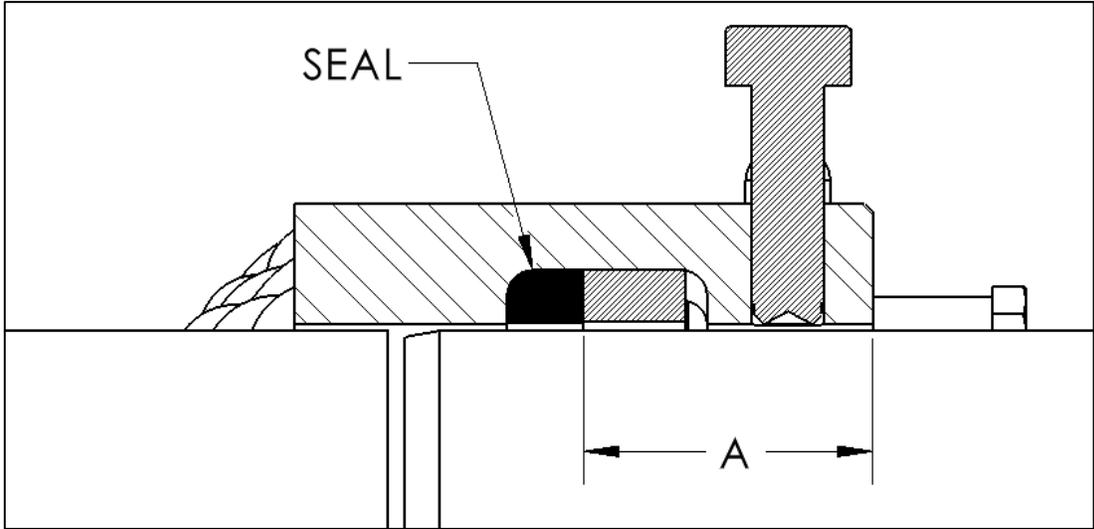

Figure 4
1. Measure and record the inside distance to the seal; dimension "A" as shown in Figure 4. This will be needed later if the mechanical end of the Half Weld+End is to be fully welded to the pipe.
During welding the temperature around the seals must be monitored. Dimension "A", as measured during the initial installation, should now be used to mark off location "B", as shown in Figure 4. To prevent damage to the seals, monitor the heat generated by welding or preheating, particularly at location "B", by using temperature crayons or probe thermometers. If the heat generated approaches the temperature limit of the seal material, which is indicated in the seal lubrication chart, welding should be discontinued or sequenced to another part of the fitting so that the affected area has a chance to cool.